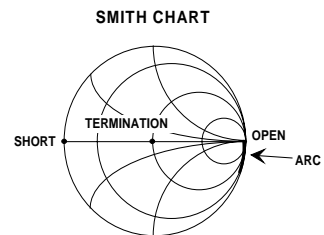

Figure 8-6. Smith Chart Display 2
3. *Connect the Open:* An Open appears as an arc on the chart's right edge. This is due to the fringing capacitance of the Open standard (Figure 8-6).